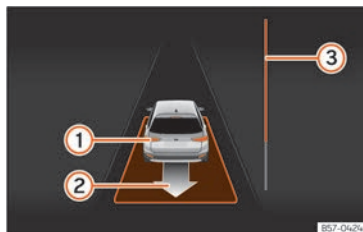

Fig. 168 On the instrument panel display: exit a parallel parking space.
The progress bar »» Fig. 168 ③ indicates the distance to cover »» page 246.